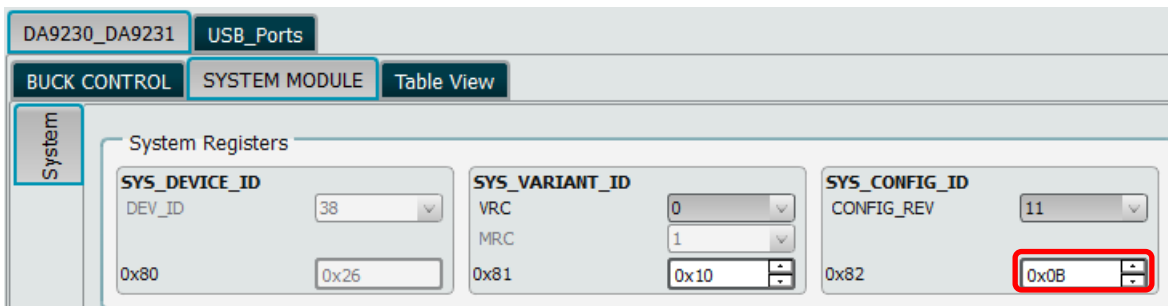

Figure 9: Read Device OTP information
1. Open DA9230/DA9231 GUI and go to SYSTEM MODULE page. See Figure 9.